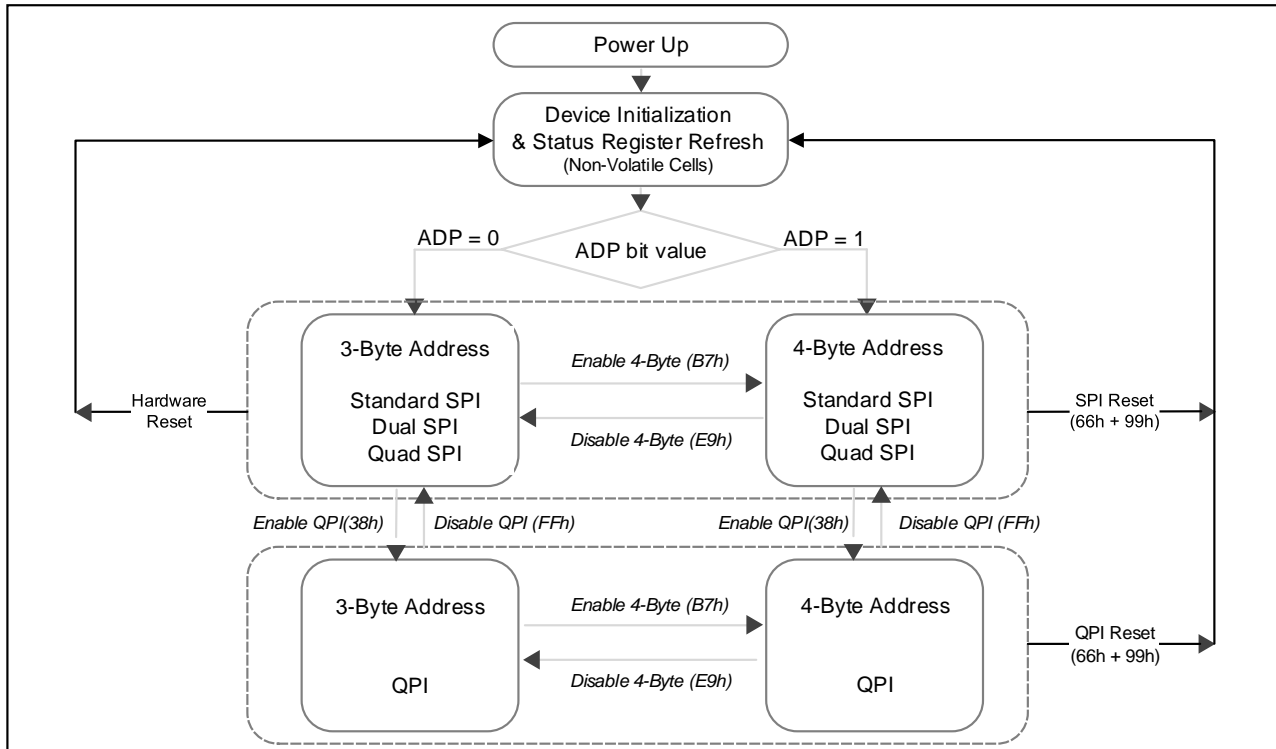

Figure 3. XM25QW512C Serial Flash Memory Operation Diagram
The XM25QW512C supports Quad Peripheral Interface (QPI) operations only when the device is switched from Standard/Dual/Quad SPI mode to QPI mode using the “Enter QPI (38h)” instruction. The typical SPI protocol requires that the byte-long instruction code being shifted into the device only via DI pin in eight serial clocks. The QPI mode utilizes all four IO pins to input the instruction code, thus only two serial clocks are required. This can significantly reduce the SPI instruction overhead and improve system performance in an XIP environment. Standard/Dual/Quad SPI mode and QPI mode are exclusive. Only one mode can be active at any given time. “Enter QPI (38h)” and “Exit QPI (FFh)” instructions are used to switch between these two modes. Upon power-up or after a software reset using “Reset (99h)” instruction, the default state of the device is Standard/Dual/Quad SPI mode. To enable QPI mode, the non-volatile Quad Enable bit (QE) in Status Register-2 is required to be set. When using QPI instructions, the DI and DO pins become bidirectional IO0 and IO1, and the /WP and /HOLD pins become IO2 and IO3 respectively. See Figure 3 for the device operation modes.